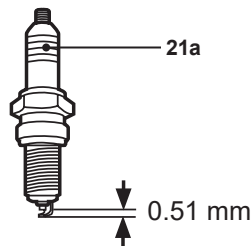

Fig. 29
6. Check the spark plug gap. It should be 0.51 mm (Fig. 29).
8. When replacing the spark plug (21a), first screw it in hand tight and then tighten it to 20-25Nm with the spark plug wrench (32).